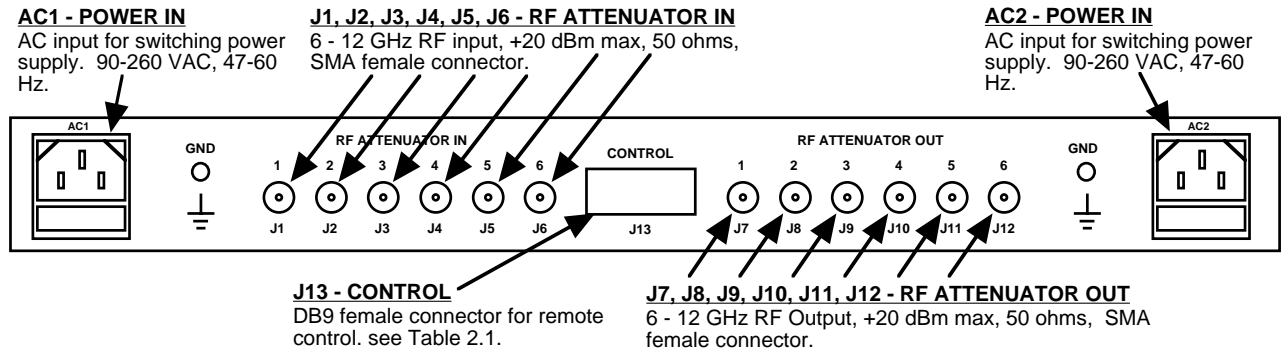

FIGURE 2.1 1586-06 Rear Panel I/O's
2.2 Rear Panel Input/Output Signals - Figure 2.1 shows the input and output connectors on the rear panel.
- 1.) Connect +20 dBm max signal(s) to any or all of the six RF Attenuator Inputs, J1 - J6 (Figure 2.1).
- 2.) Connect the desired RF Attenuator Outputs, J7 - J12, to the external equipment (Figure 2.1).